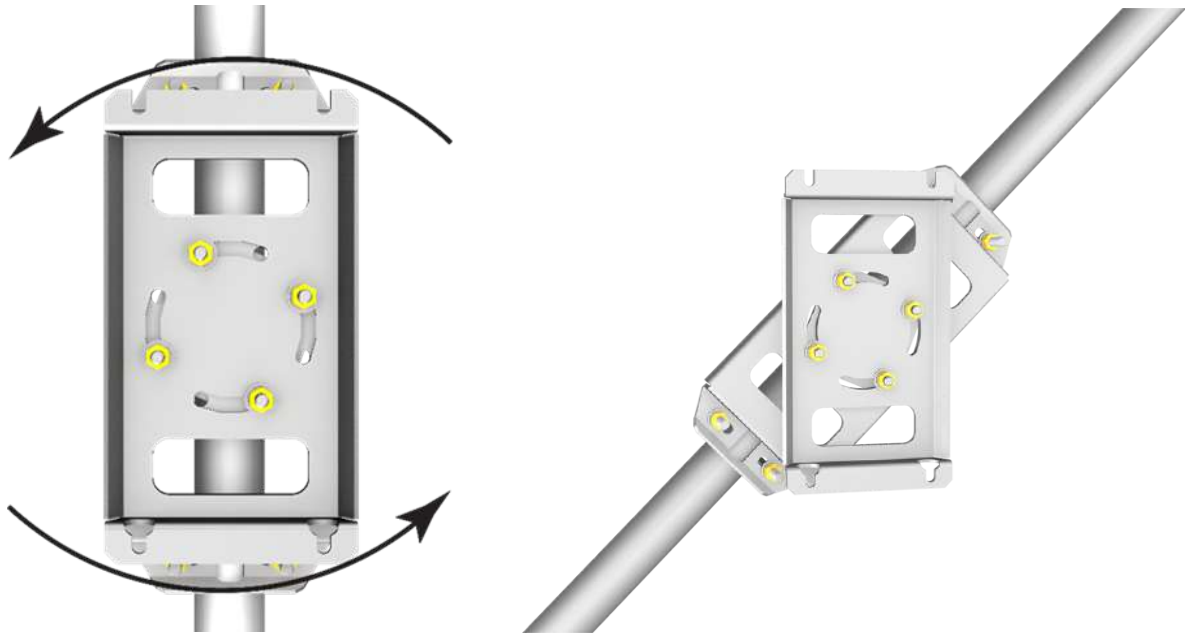

FIGURE 6-5. EC100 enclosure mounting bracket mounted on a vertical mast (left) and a tripod leg (right)
- a. Attach the EC100 enclosure mounting bracket (pn 26604) to the pipe by loosely tightening the u-bolts around the pipe. The u-bolts are found in the mesh pocket inside the EC100 enclosure. If the pipe does not run vertically up-and-down (for example, if you are attaching the enclosure to a leg of a tripod), rotate the bracket to the side of the pipe. As the enclosure must hang upright, angle adjustments may need to be made by loosening the four nuts and rotating the bracket plates relative to one another. If the necessary angle cannot be reached in the given orientation, the four nuts may be removed and the top plate indexed by 90 degrees to allow the bracket to travel in the other direction (see FIGURE 6-5).